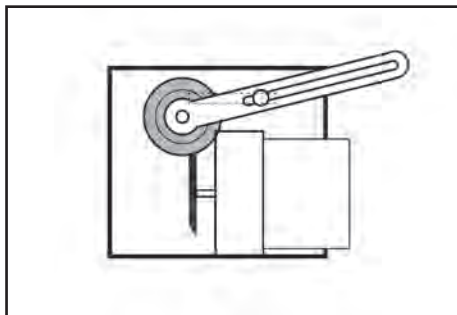

FIG.8
### 8.4 ADJUSTMENT EXAMPLES FOR DIFFERENT SAW BLADE DIAMETERS – FIGS.8 – 10
- FIG.8 90mm saw blade, motor moved backwards.